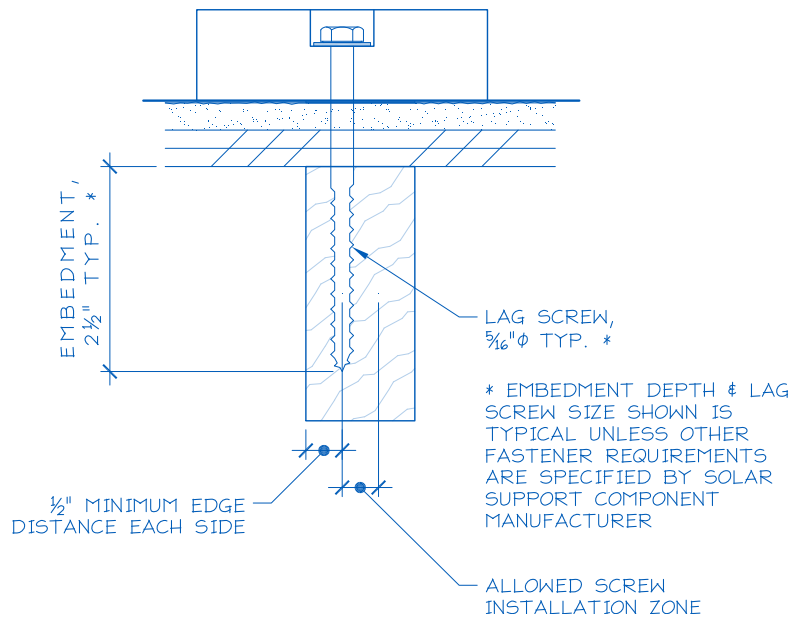

Figure 2. Typical Anchor with Lag Screw Attachment.
- 1) Anchor fastener data (see Figure 2):